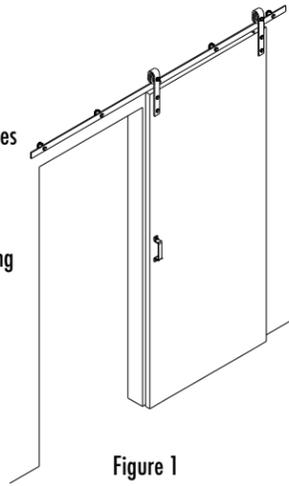

Figure 1
Step 1) If your door closes to the left, use this sheet (see Figure 1). If your door closes to the right, use the sheet titled "Door Closes to the Right". Follow the main instruction sheet provided to correctly install the rail to your wall before installing the trigger arms to the top of your door.